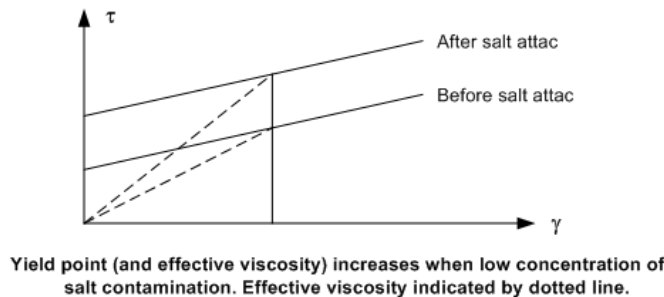

Figure 5-10. Clay behavior.
d) Figure 5-10 shows both how a Ca attacks is changing the dispersed mud, but also how Gyp mud is made. Bentonite is composed mainly of the mineral called Montmorilonite. It is an aluminium silicate in which the silicon-oxygen sandwich is a layer of aluminium hydroxide. Some of the aluminium in the lattice structure is, during creation, replaced with ions of a lower charge (electron valence) such as magnesium (from 3 to 2). The *substitution*, without any other change of structure, creates surface negative charges in the lattice.
Gypsum is added to prevent shale swelling. When lime or gypsum is added to Bentonite-treated mud, sodium Montmorilonite will convert to calcium Montmorilonite, which first produces flocculation and eventually aggregation of the Montmorilonite (see Figure 5-10). Caustic soda is added for pH control to suppress further dissolution of Ca^{++} . Lignosulphate is added for deflocculating. CMC may be added for fluid control. Then we get gyp mud.